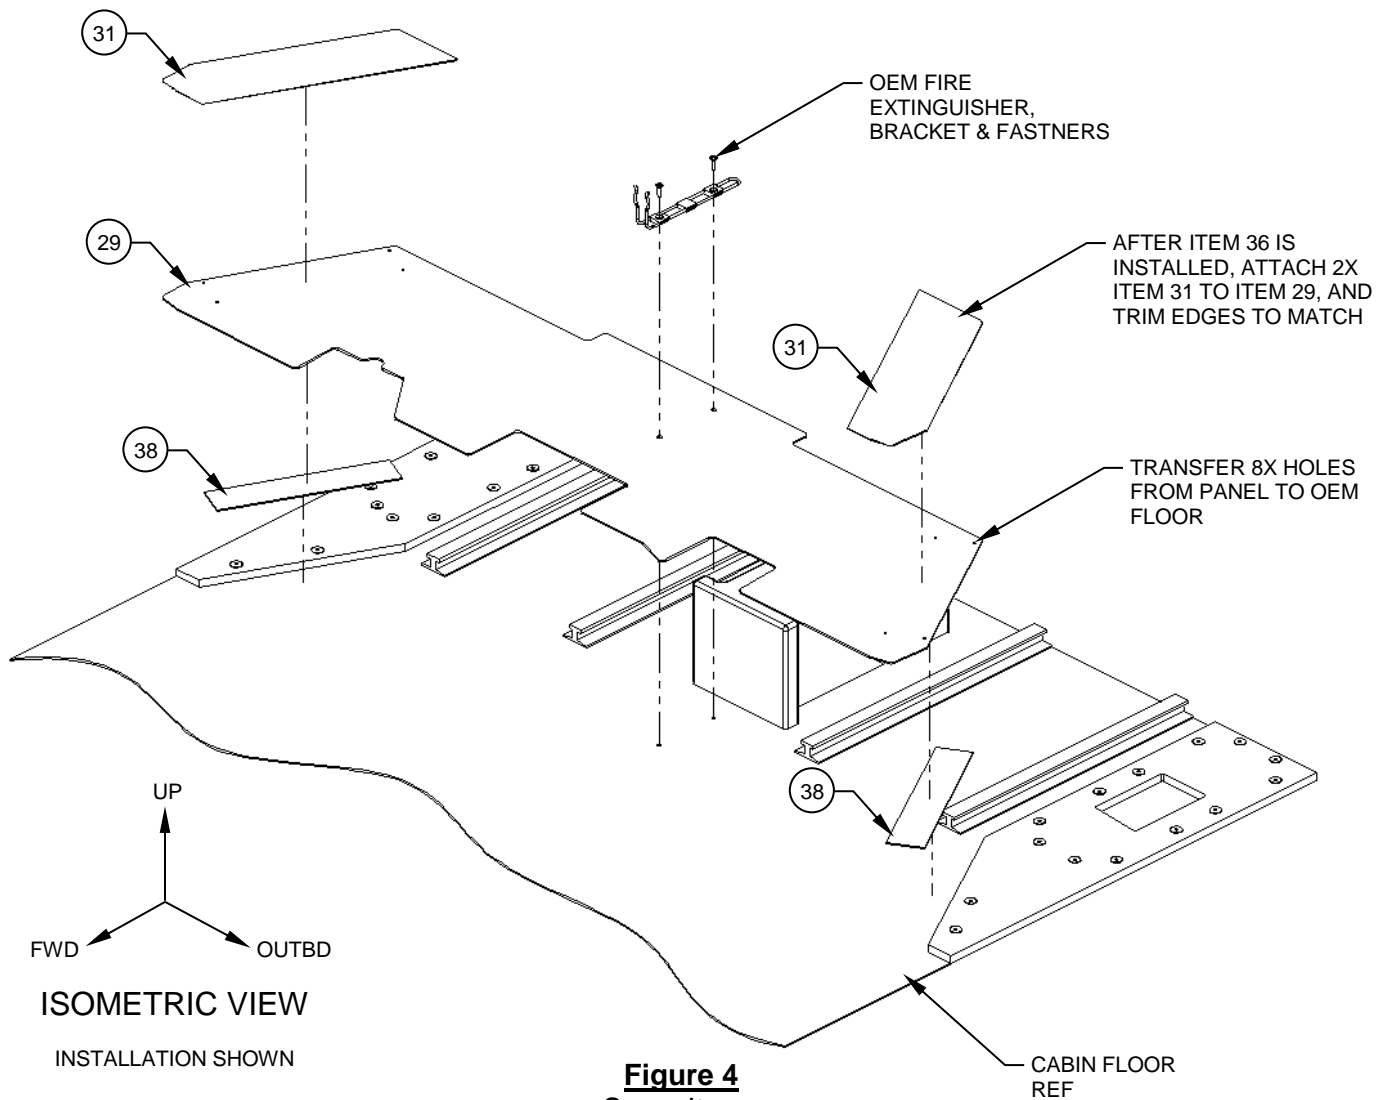

Figure 4
3. Temporarily install the FWD Floor Protection Panel, Assy, (Item 29) in its respective location. Reference Figure 4.
4. Transfer 8x the corner positions for the Velcro, Detail, (Item 38), using a permanent marker. Reference Figure 4.
5. Install 2x Velcro, Detail, (Item 38), using the locations marked in step 4. Reference Figure 4.
6. Install the loose 2x Grip Tap, (Item 31) along the edges of the FWD Cabin Floor Protection, Assy, (Item 29), and trim to match the remaining edges. Reference Figure 4.
7. Install the FWD Cabin Floor Protection, Assy, (Item 29), onto the 2x Velcro, Detail, (Item 38), and re-install the fire extinguisher & bracket, using the retained fasteners. Reference Figure 4.